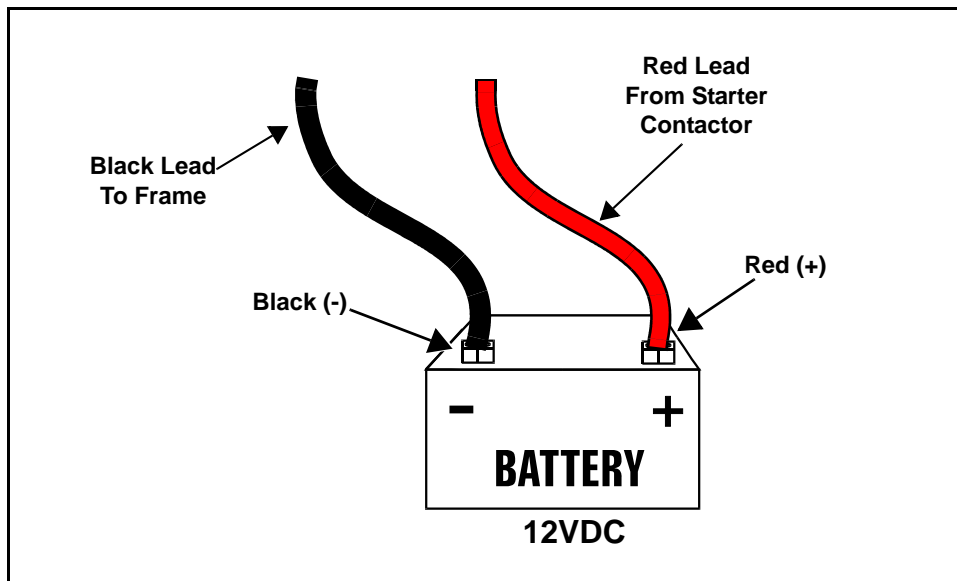

Figure 6-4. Battery Cable Connections
6. Install battery positive cable (red) to battery positive (+) terminal. See Figure 6-4.